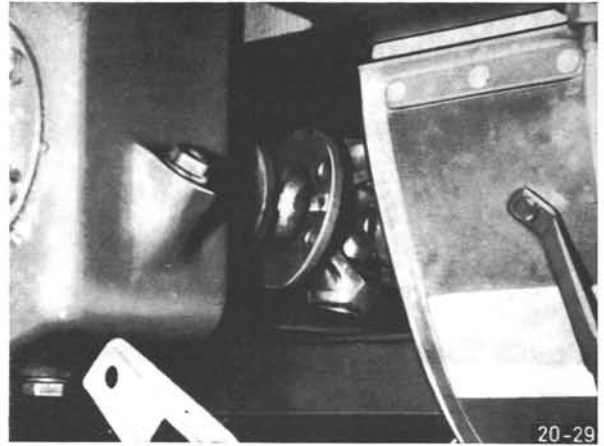

Fig. 55-2/1
2. Remove pto shaft on chain distributor drive. Fig. 55-2/1.